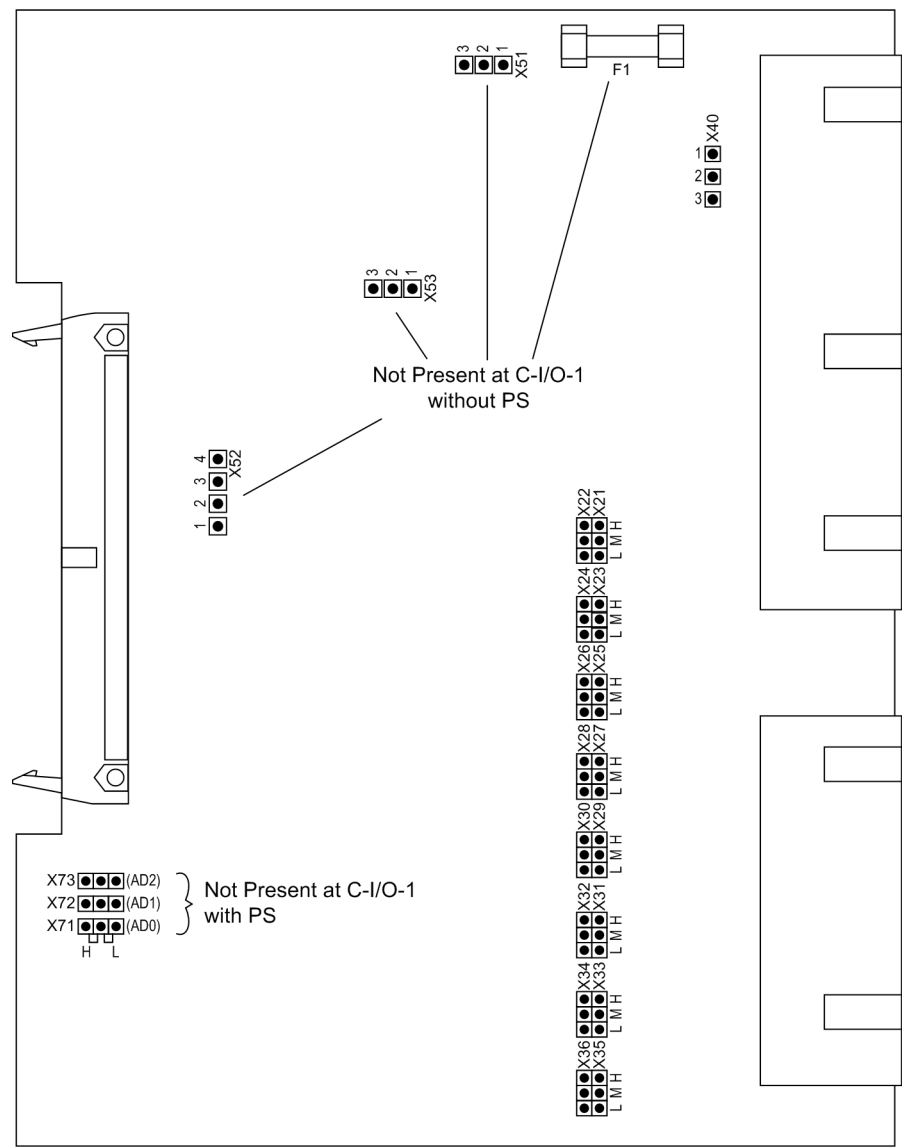

Figure 3-5 Input/output module C-I/O-1 with representation of the jumpers required for checking the setting
The backup battery receives the data stored in the battery-backed RAM in the event that the voltage supply fails. Their spatial arrangement is shown in the figure of the processor board (Figure 3-10). The miniature fuse of the internal power supply is located on the board C-I/O-1 (Figure 3-5). The ratings of the fuse are printed on the board next to the fuse. When replacing the fuse, please observe the guidelines given in the SIPROTEC 4 System Description in the chapter „Maintenance“ and „Repair“.
- Check the jumpers according to Figures 3-5 to 3-13 and the following information. Change or remove the jumpers if necessary.